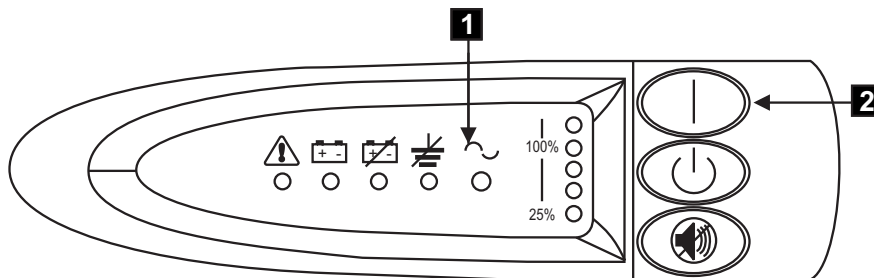

Figure 32. Power switch and indicators on the 2145 UPS
10. All front panel indicators of the 2145 UPS flash for a short time while the 2145 UPS runs a self-test. When the test is complete, the **mode indicator 1** flashes to show that the 2145 UPS is in standby mode; see Figure 32.
Press and hold the 2145 UPS On button, **2** in Figure 32, until you hear the 2145 UPS beep (approximately one second). The **mode indicator** stops flashing and the **load-level indicators** display the percentage of load that is being supplied by the 2145 UPS. The 2145 UPS is now in normal mode, and is charging its battery.